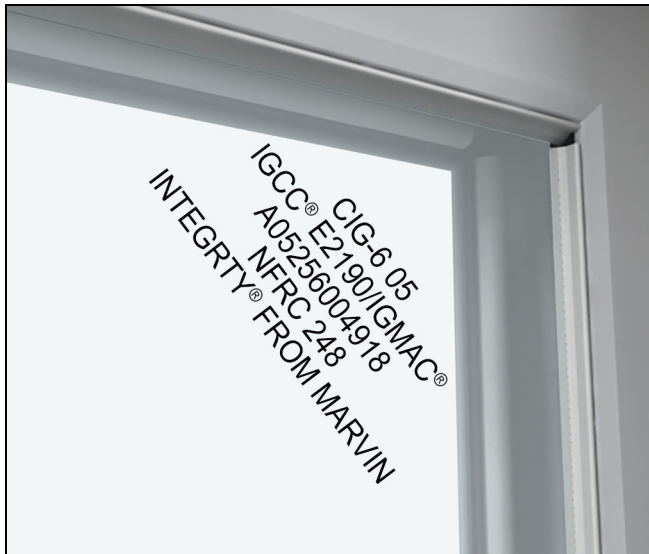

Figure 5
1. Remove the protective packaging from the unit and dispose/recycle properly. Inspect unit for any hidden damage and report immediately to your Marvin representative. Provide the customer service number etched on one of the top corners of the glass. See Figure 5.
3. On masonry openings you will need to modify the bracket. Remove the front leg of the bracket by cutting with a metal cutter or similar tool. See Figure 5.